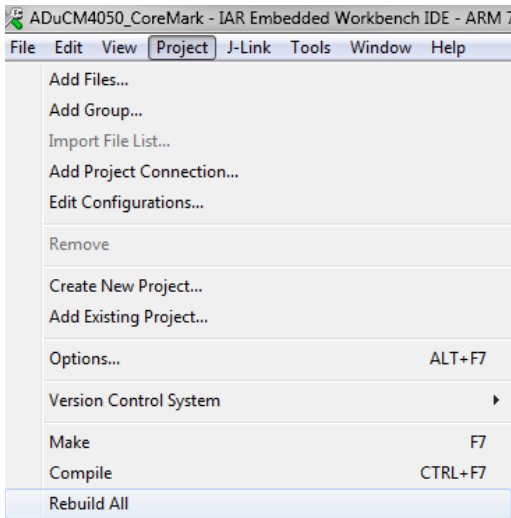

Figure 15. Start to Build the Project
- Click **Project** and select **Rebuild All** (as shown in Figure 15).